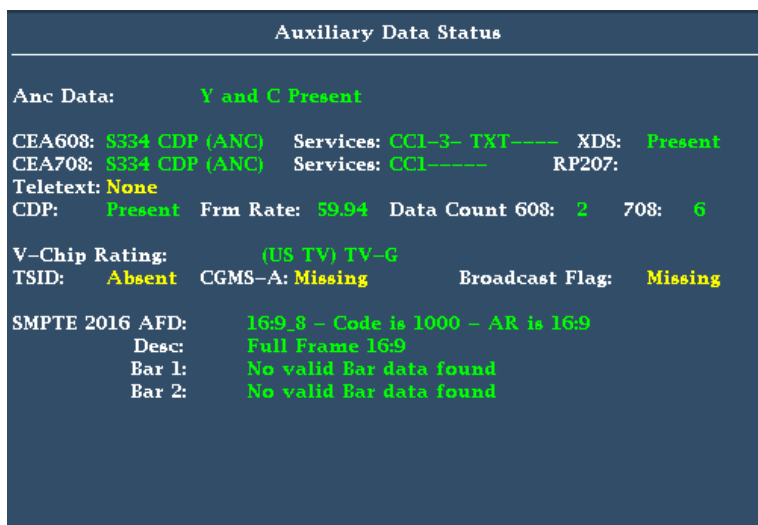

Figure 60: Auxiliary Data Status display
4. Select **Aux Data Status**. The Auxiliary Data Status display shows the status of the closed caption data. (See Figure 60.)
View the graticules in the Picture display. AFD information can viewed in the Auxiliary Data Status display. (See Figure 60 on page 178.)